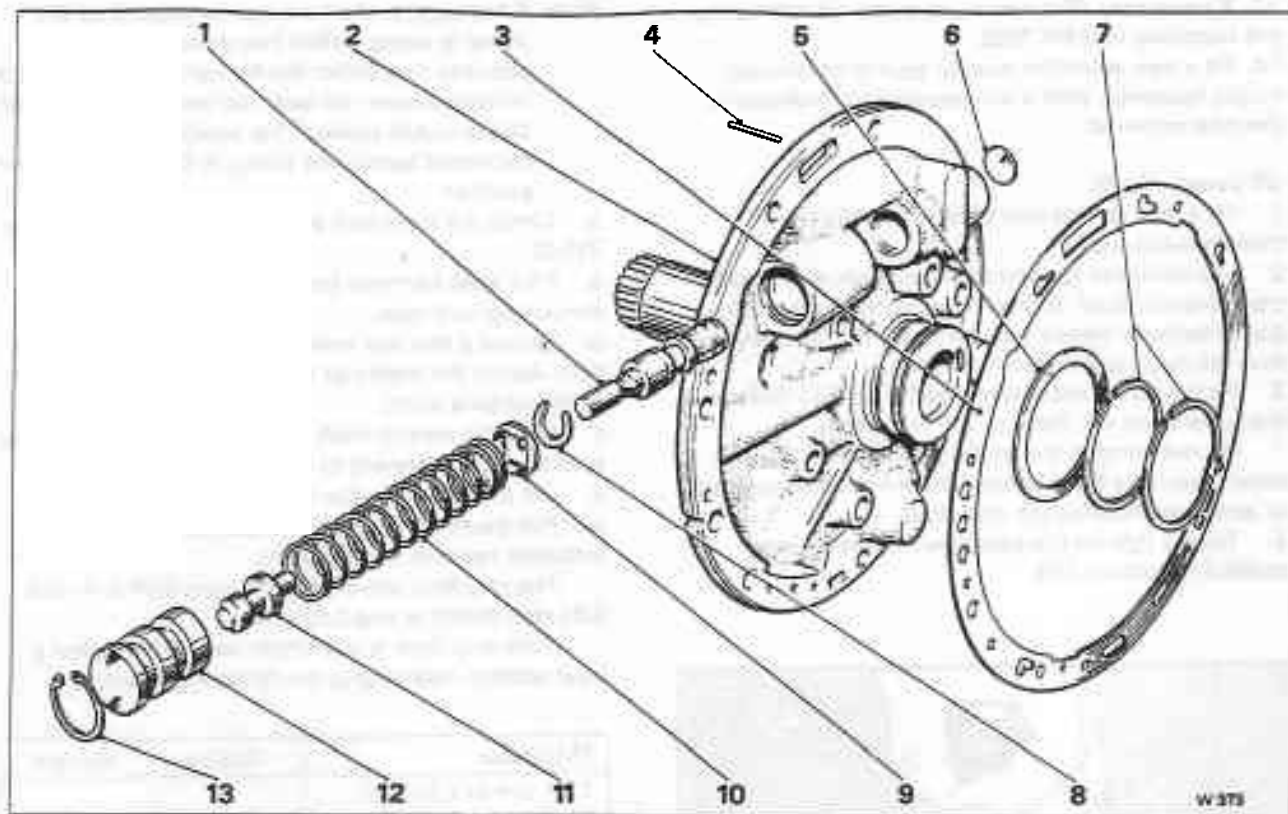

Fig. T17-5 Pump cover
2. Fit the pressure regulator spring retainer, spacer(s) (if fitted), and spring into the pressure regulator bore (see fig. T17-5).